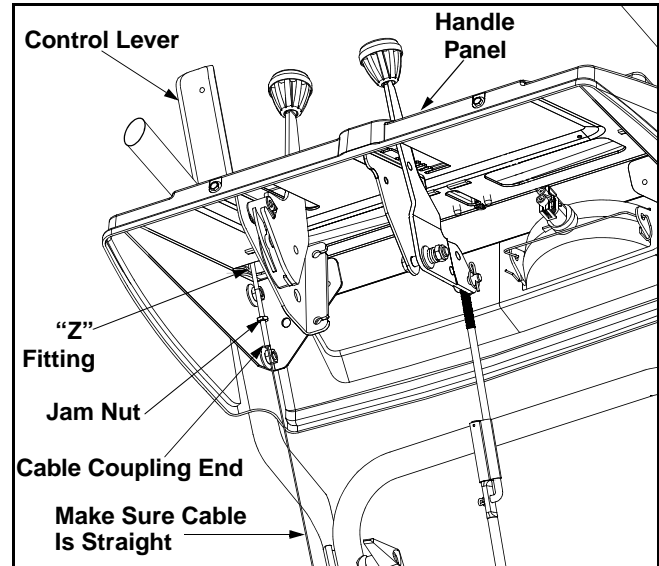

Figure 4
- Thread the jam nuts all the way up each of the “Z” fittings, toward the handle panel. See Figure 4.